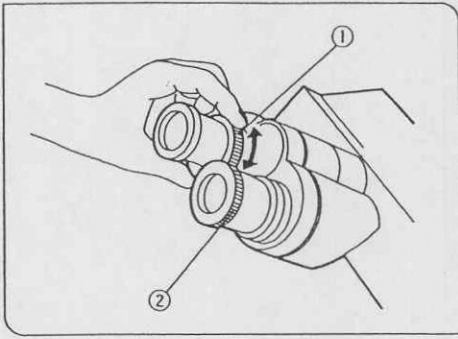

Fig. 45
2 Diopter Adjustment (Figs. 45, 46)
2. Looking through the left eyepiece with your left eye, turn the diopter adjustment ring ① to where the specimen is in focus. (Fig. 45)
1. Looking through the right eyepiece with your right eye, turn the knurled ring on top of the eyepiece until you see two distinct sets of recticles in the field of view. (Figs. 45, 46)
3. Looking through the left eyepiece with your left eye, turn the diopter adjustment ring ① using a finder eyepiece